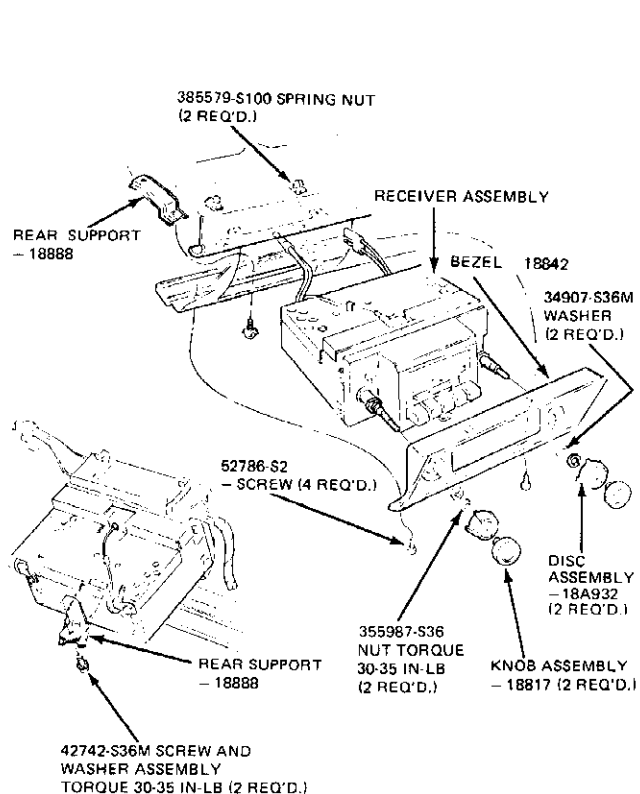

FIG. 6 Radio Installation—Pinto and Bobcat
3. Remove the rear support-to-radio attaching bolt (Fig. 6).
1. Position the bezel to the radio and install the washers and retaining nuts (Fig. 6).